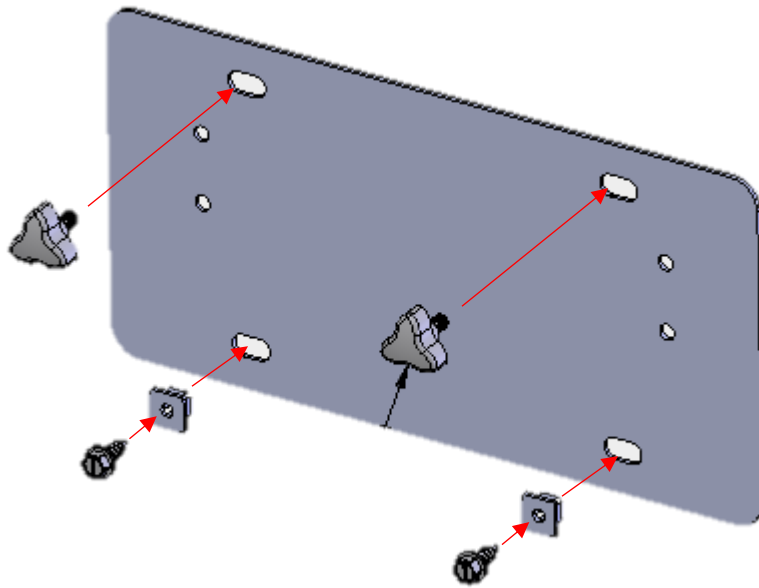

Figure 2
4. Install the white plastic nut to the bottom of the license plate carrier from the front. (Figure 2)
5. Secure your license plate to the provided carrier by hand tightening the Hex Head Cap Screw (HHCS) to the bottom. Over tightening may strip the plastic. (Figure 2)
6. Install your license plate and the provided carrier to the bracket using the supplier thumb screws. Make sure to only hand tighten these, as excessive force can strip the thumb screws and deform the license plate. (Figure 2)